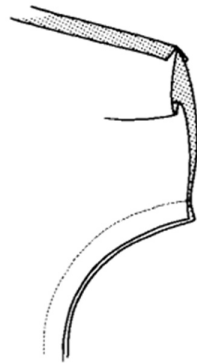

Figure 26
3. Stitch seam allowance; shorten stitch length along curved section of the same line. Press flat, not open (Figure 26).